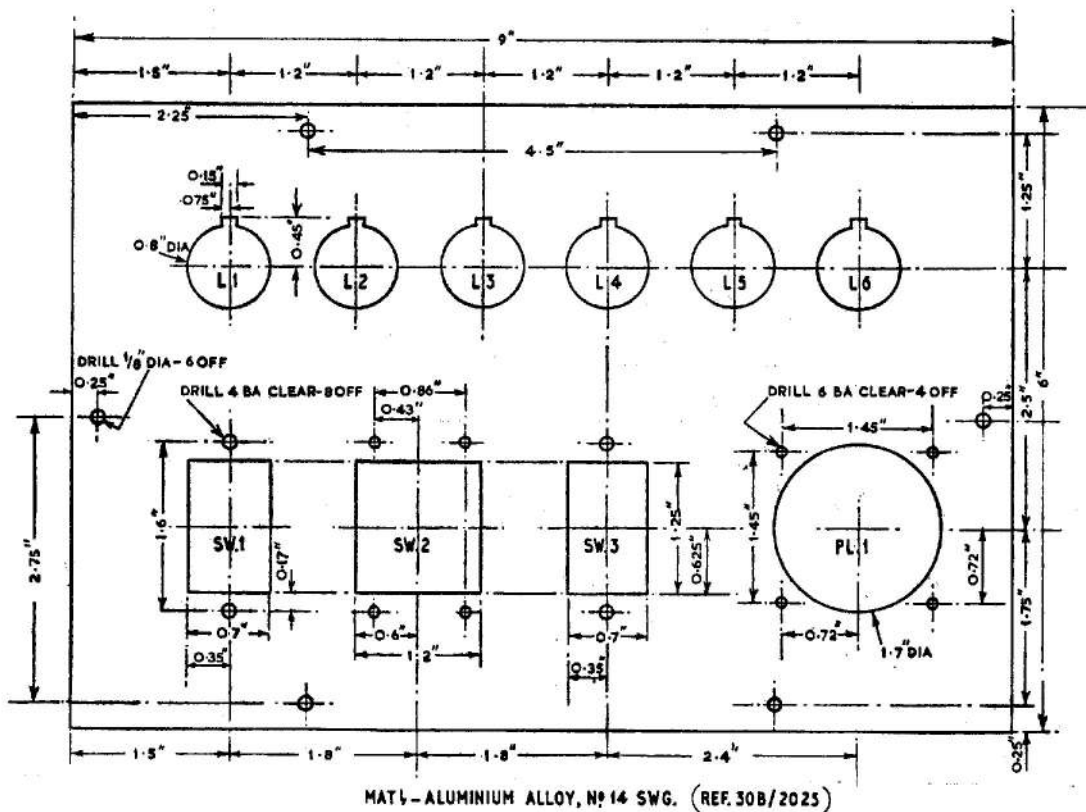

Fig. 5. Details of front panel
9. Dimensions and details of the front panel are given in fig. 5. The correct method of assembly is as follows:—